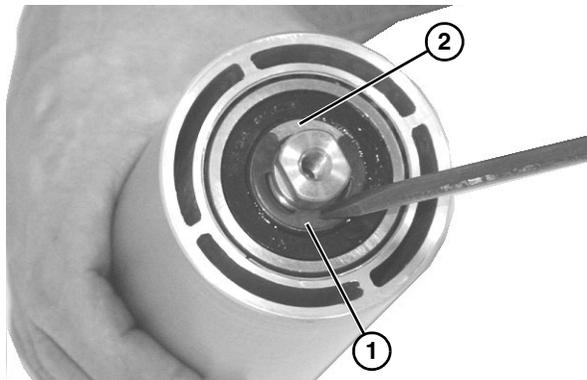

Figure 36
5. Remove the spindle shaft assembly: remove the clip ring (Figure 36, item 1) and washer (Figure 36, item 2) from one side of the spindle assembly.